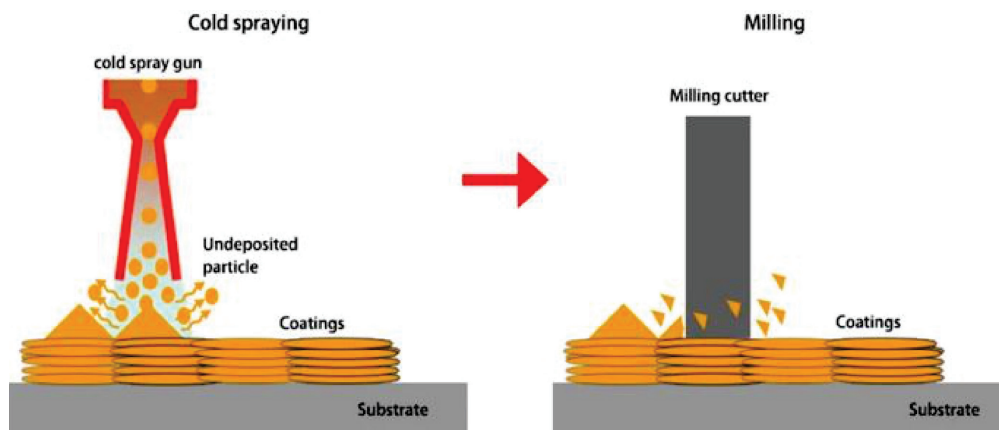

Fig. 1 — Schematic representation of CS+milling process.
Fig. 1 — (a) Schematic showing a possible method for hardness measurement in the cold spray coating and substrate; and (b) load sensitivity analysis of coating microhardness.
Cold spraying (CS) is a solid-state coating technique that has been applied as a novel additive manufacturing (AM) method to fabricate freestanding metal components. Recent advances in cold spray additive manufacturing (CSAM) technology call for new process implementation to improve manufacturing accuracy and flexibility. In this study, a concept of modular systems is presented to design and implement a new CSAM framework. The current CSAM system is an open framework system composed of different modules. The flow of the proposed CSAM system is explained to understand the physical and functional relationships between the key elements of the entire system. This physical and functional modularity is useful to promote hybrid AM processes. In addition, based on the smart manufacturing concept of Industry 4.0, a novel approach is proposed to bring the perception and the decision-making abilities into the traditional CS system. (Fig. 1)